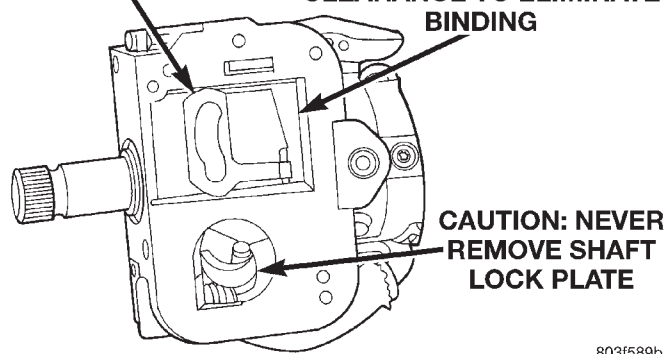

Fig. 4 Steering Column Flash Removal And Non-Serviceable Components
(1) Look for rough areas or flash in the casting and if found remove with a file (Fig. 4).